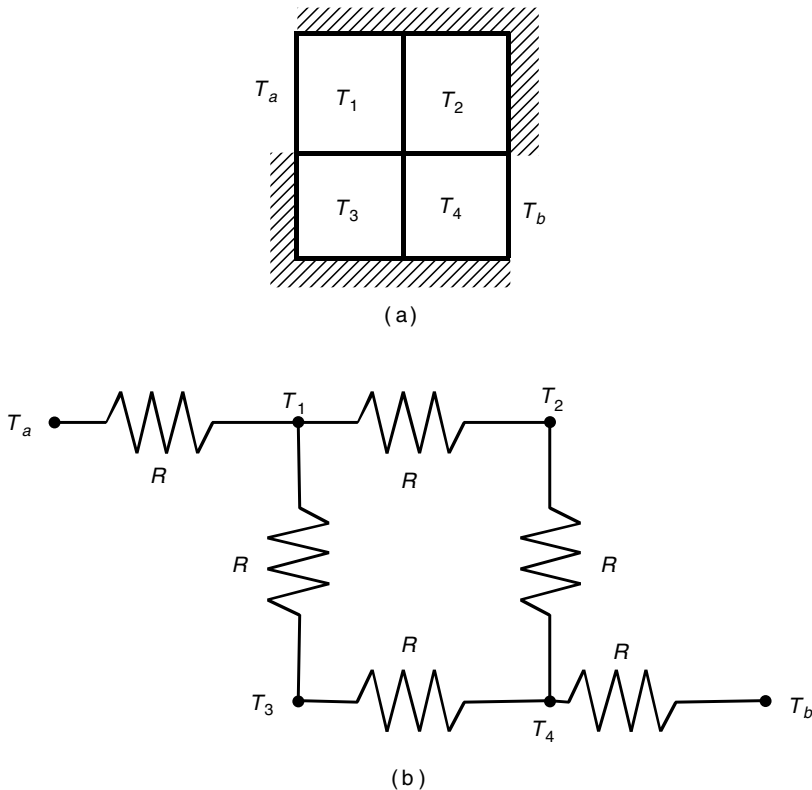

Figure P9
9. The concept of thermal resistance described in Problem 8 can be used to find the temperature distribution in the flat square plate shown in Figure P9(a).